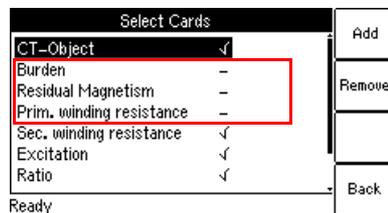

Figure 5-1 **Select Cards** page
1. For reasons of simplicity, we do not want to perform a burden measurement or a primary winding resistance measurement in our example CT test described below. Therefore, press the **Select Cards** soft key in the **CT-Object** card to open the **Select Cards** page. Check, and if necessary make the following test card selection (see Figure 5-1):